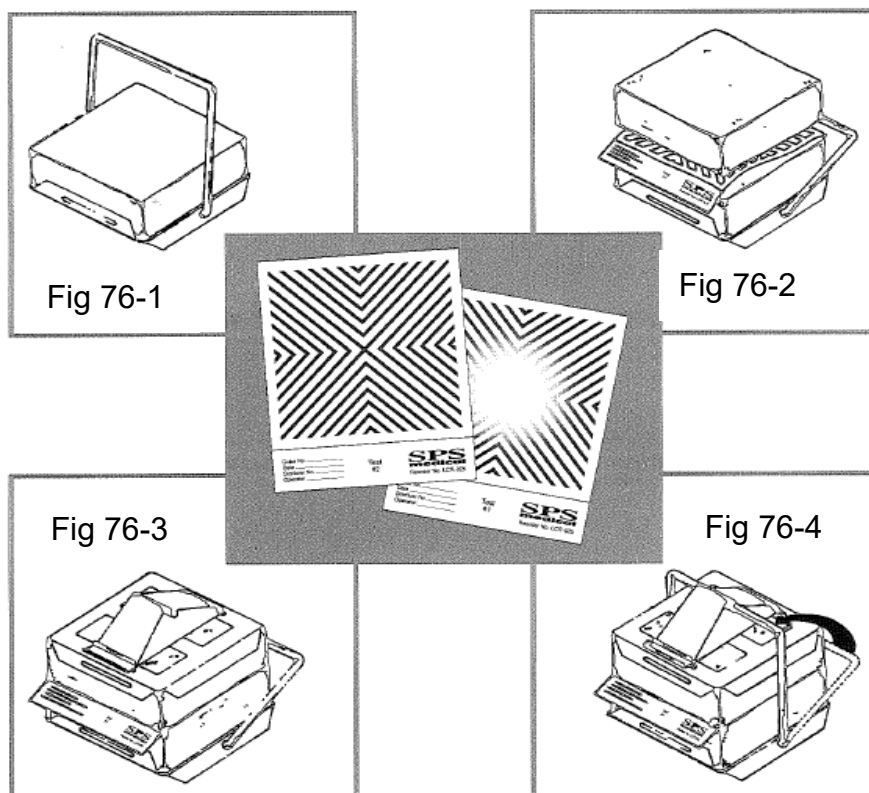

Figure 80
1. Assembly of the cube is reference Figure 80.